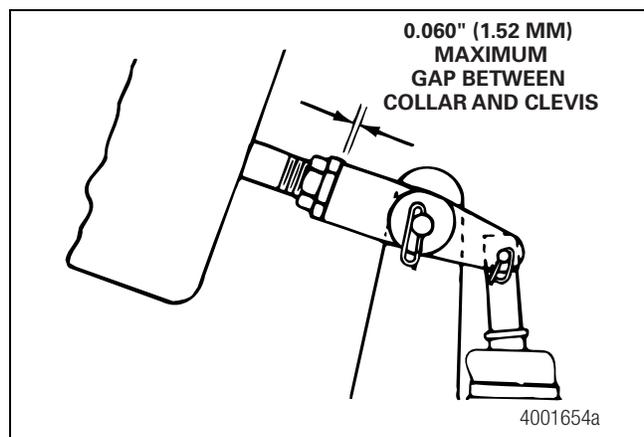

Figure 13.5
8. Measure the gap between the clevis and the collar on a "Quick Connect" clevis. Replace the clevis if the gap exceeds 0.060-inch (1.52 mm). Figure 13.5.